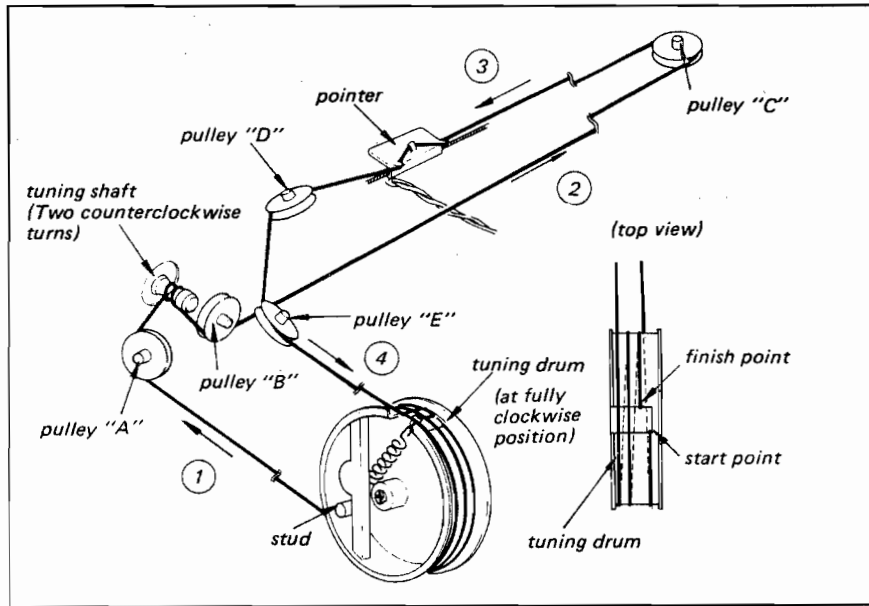

Fig. 2-4. Dial cord stringing
3. Install the tuning drum as shown in Fig. 2-4.
5. Hook the spring to the stud of drum as shown in Fig. 2-4.
1. String the dial cord in order as shown in Fig. 2-4.